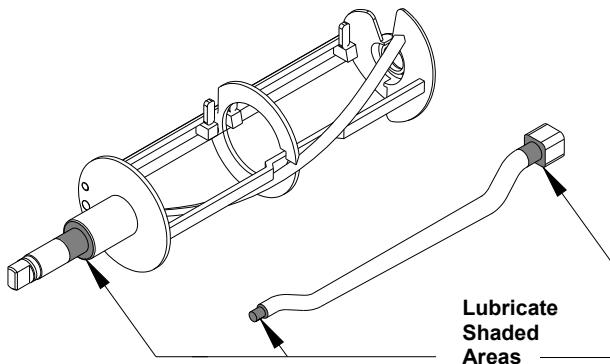
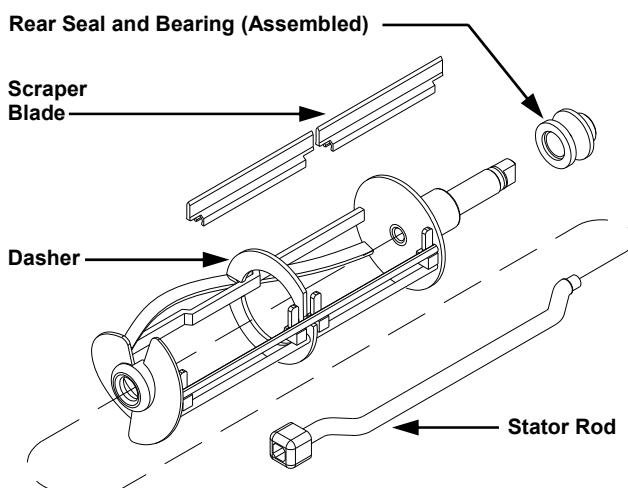

Fig. 12
Fig. 13
a. Apply a generous amount of lubricant to the shoulder of the dasher and the area of the shaft where the white plastic portion of the assembled rear seal contacts the shaft (Fig. 12). This is easily performed by running a 1/4" bead of lubricant around the shoulder of the dasher.
b. Lubricate the two areas of the stator rod (Fig. 12) and slide the stator rod into the dasher (Fig. 13). Be certain that the end of the stator rod is inserted into the hole at the rear of the dasher.
c. Assemble and install the rear bearing and seal with the rubber portion toward the rear of the freezing cylinder as indicated in Fig. 13.